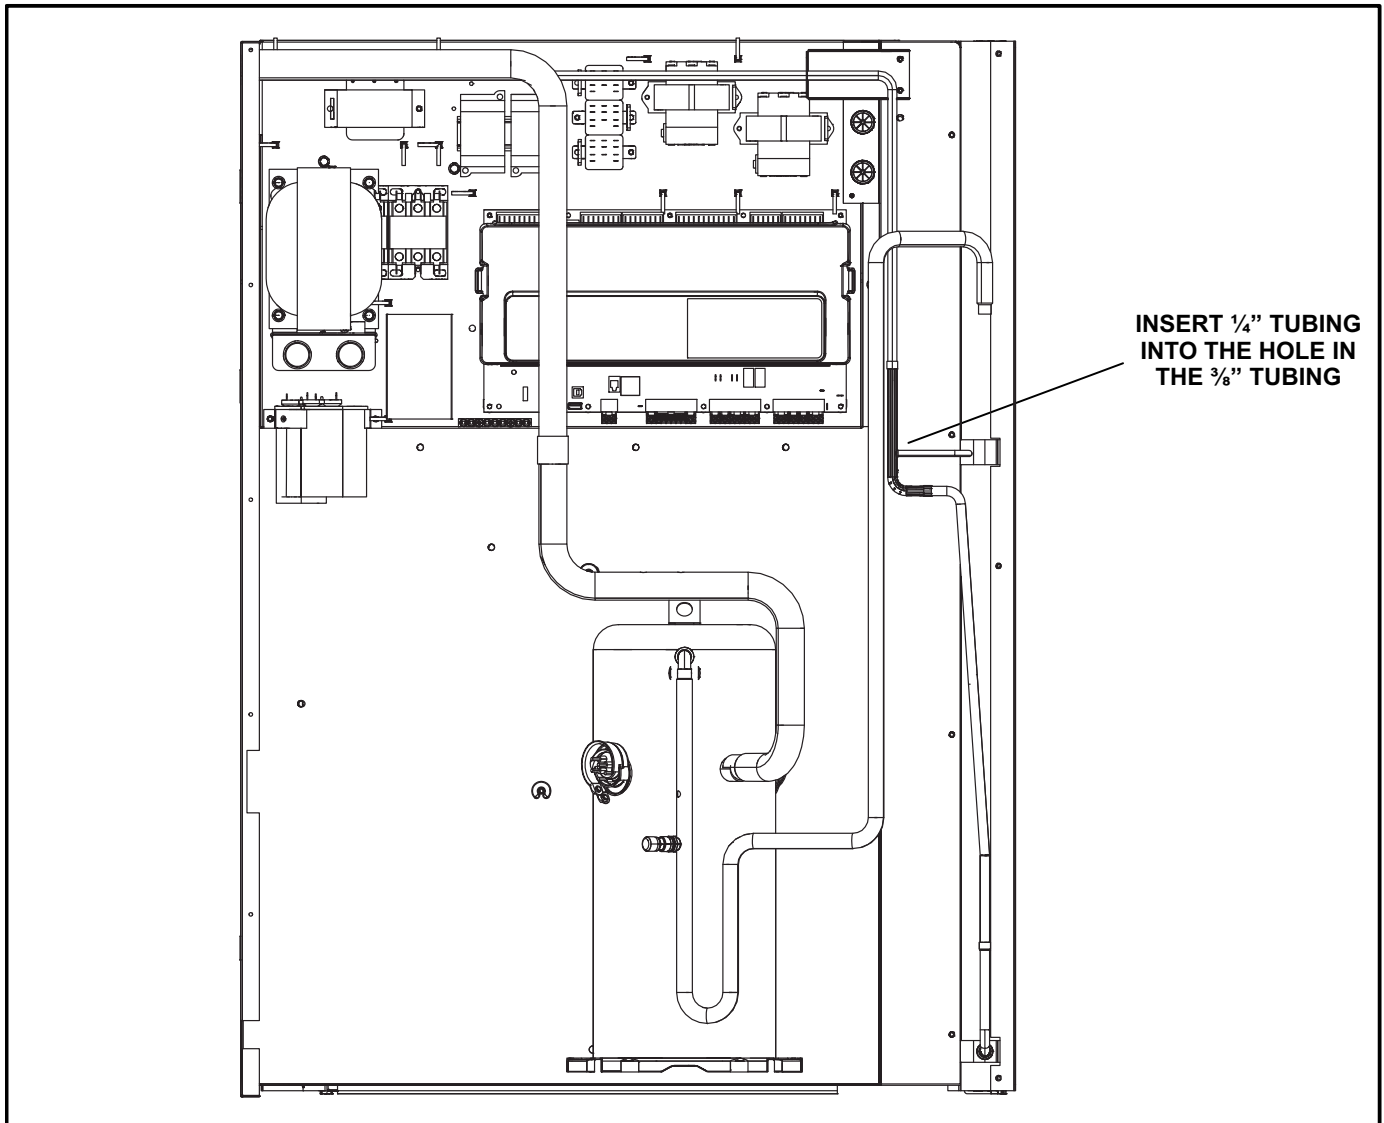

FIGURE 8
- 12- Insert 1/4" tubing into the hole on the 3/8" liquid line. See figure 8.